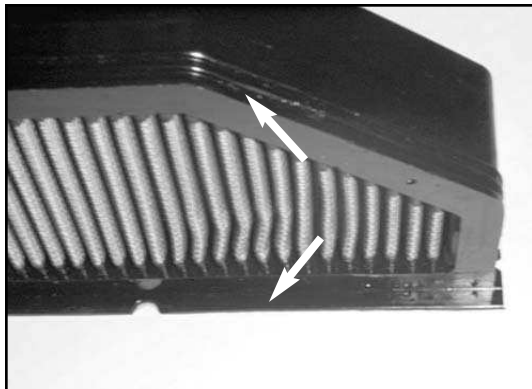

Fig. 1
2. Apply the provided K&N Sealing Grease around the K&N Filtercharger® sealing bead and on the underside of the top lip. (Fig. 1) This will help with installation.